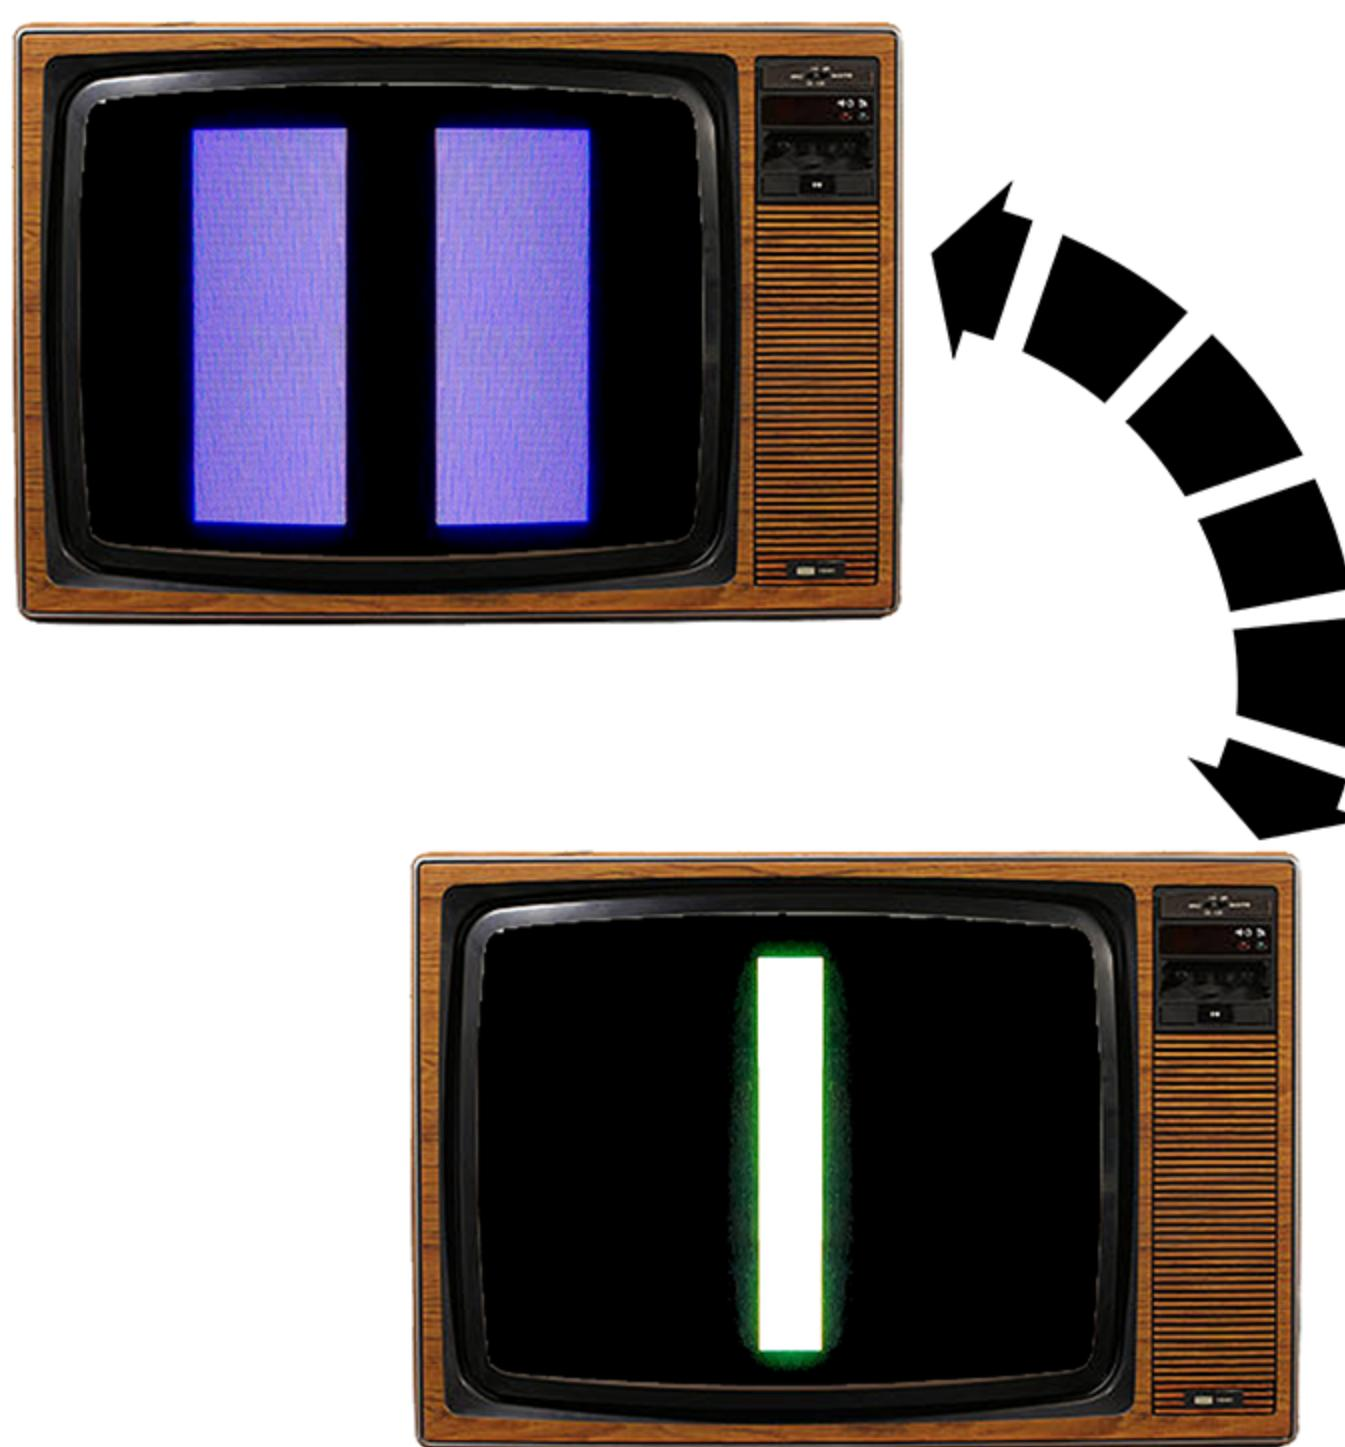

Figure 3-12. Audio Tone Test Screens
- Format: The VCS unit should be in the initialized mode. Move the Right Difficulty switch to the “B” position. The test displays two alternating patterns on the screen (as shown in Figure 3-12) while two alternating tones are heard. The tones change in sync with the screen. This test pattern continues for one full cycle after the Right Difficulty switch has been returned to the initialized position.